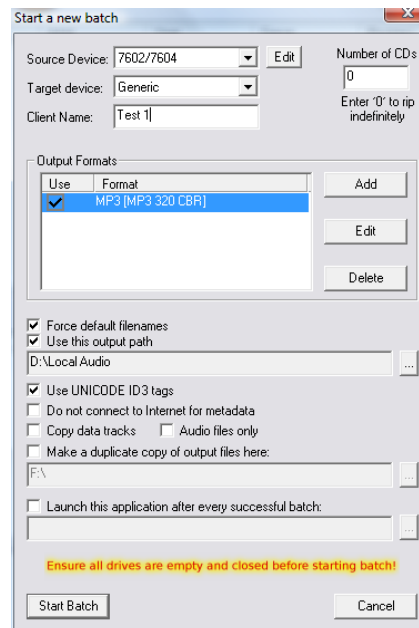

Figure 4.14– Batch Properties Dialog Box
In the main Ripstation screen, click the 'New Batch' button  and the Start a New Batch dialog box shown in figure 4.14 appears.
- **Path** - This represents the path the codec's output will use as a root folder. This may be overridden however in the batch properties screen (figure 4.14) by checking the 'Use this output path' option.